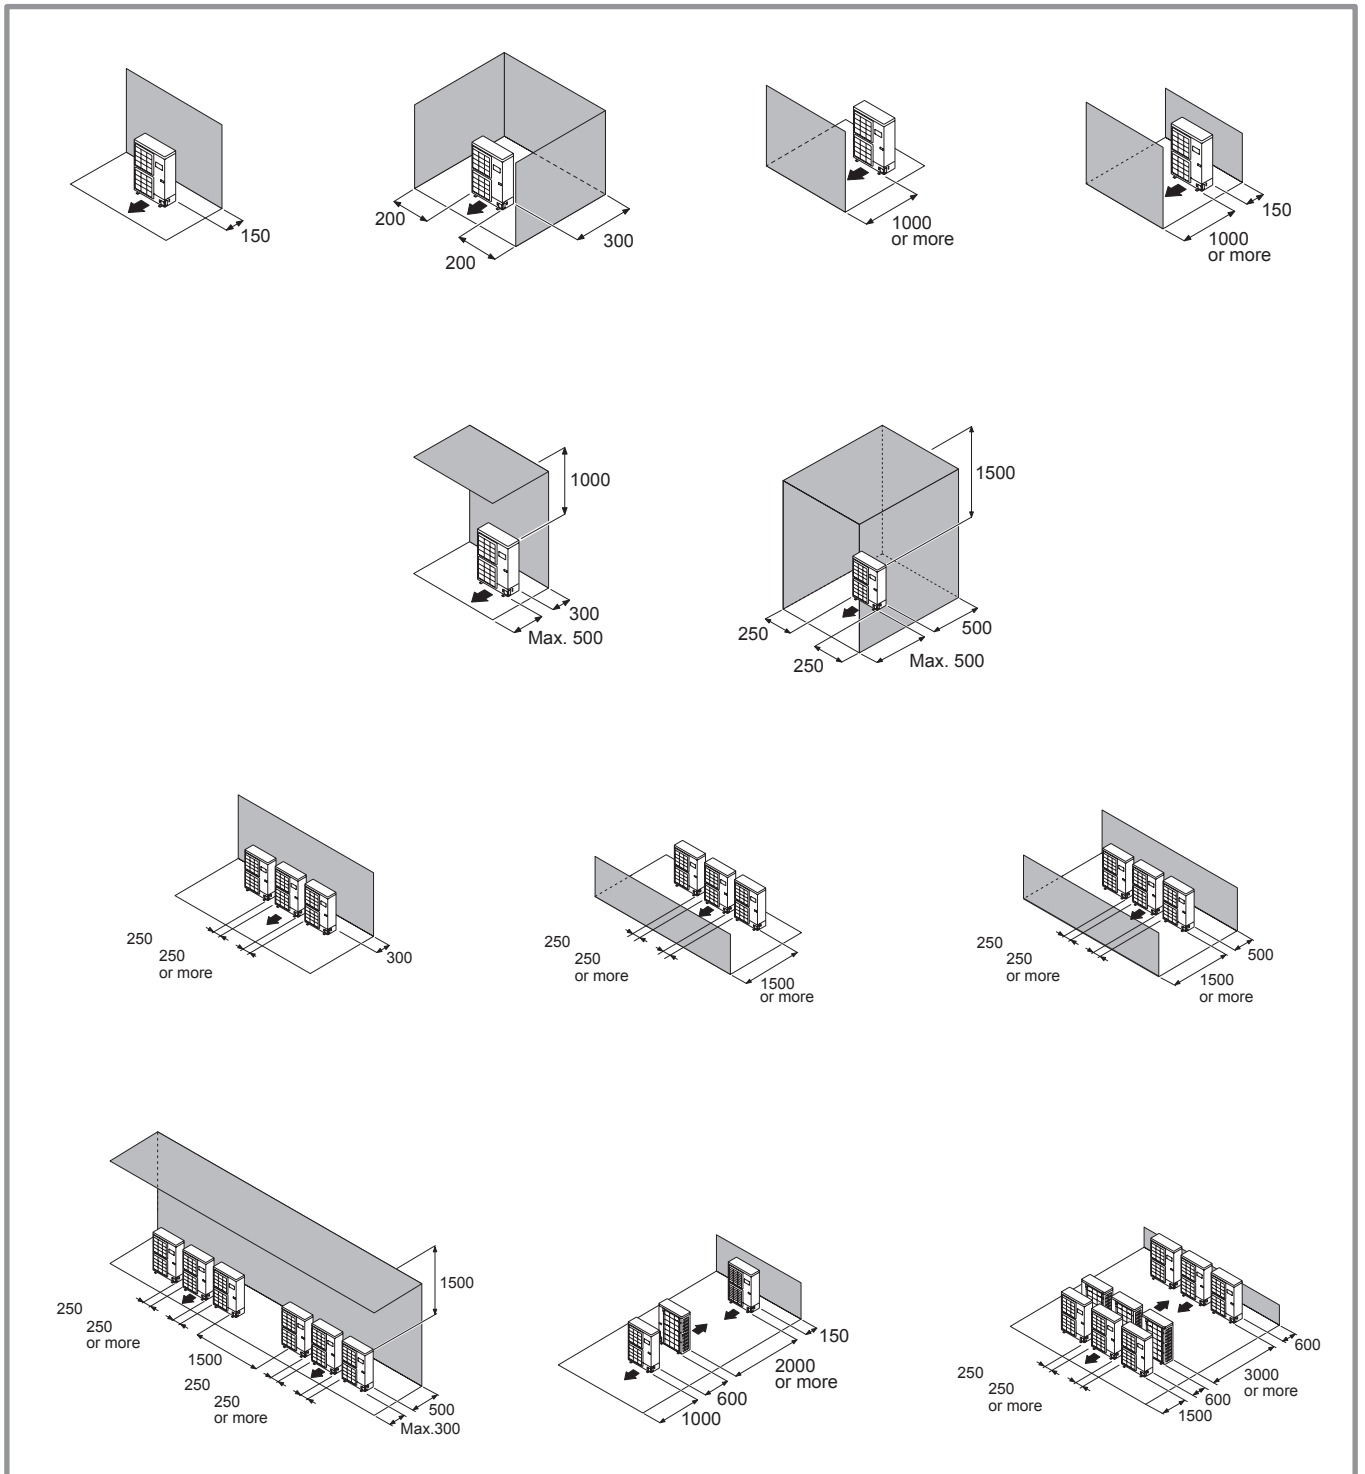

figure 11 - Minimum installation clearances around outdoor unit
- ☞ **The outdoor unit must only be installed outside (outdoors). If a shelter is required, it must have broad openings on the 4 walls and observe the installation clearances (figure 11).**